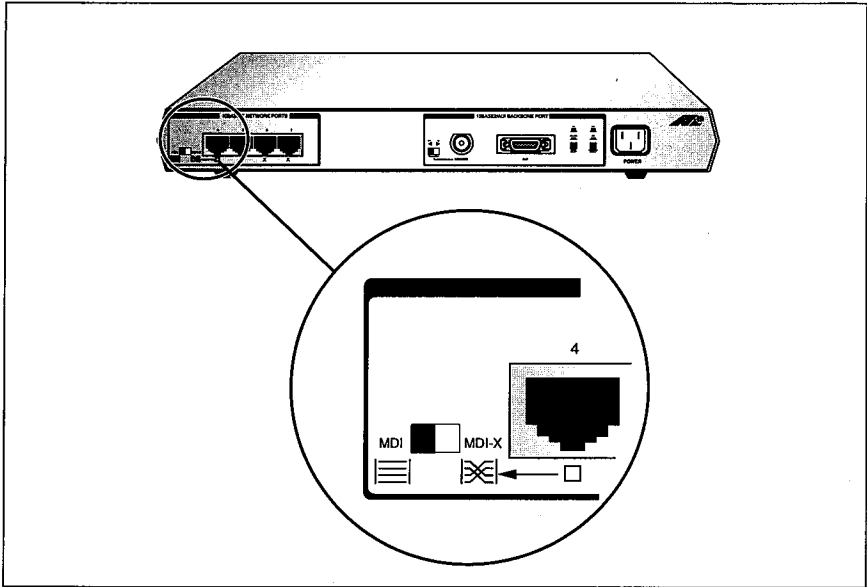

Figure 16: Uplink Port for MR420TR/820TR
second unit. A maximum of four repeaters (the four repeater rule) can be interconnected. The network effectively consists of 6 nodes for the AT-MR420TR and 14 nodes for the AT-MR820TR. The Uplink port is located on the back panel, as shown in Figure 16.
An MDI/MDI-X switch is a crossover/straight-through cable selection slide switch. As shown in Figure 16, the MDI/MDI-X switch converts the 10Base-T (RJ45) Port 4/8, to an uplinkable port that allows one repeater to connect to another repeater without requiring special crossover cables.
- ❑ In the MDI configuration — the slide switch is to the left — you can connect the 10Base-T port to another 10Base-T internal crossover port, that is, a repeater using straight-through twisted pair cable to form an interrepeater link. See Figure 16.